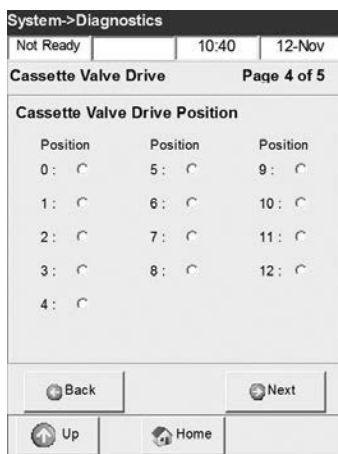

Fig. 7-10 Valve Drive
- Observe and verify that a 360 degree rotation of the valve drive occurs smoothly and precisely (Fig. 7-10).